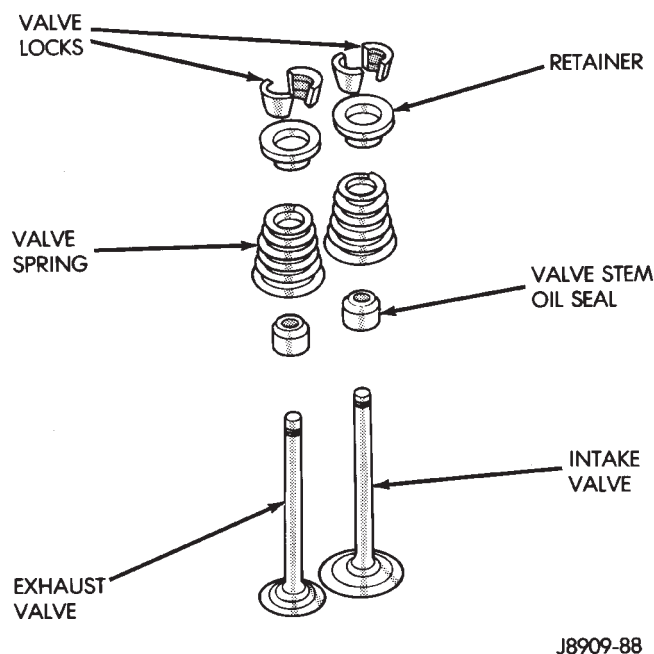

Fig. 17 Valve and Valve Components
(10) Remove valve stem oil seals (Fig. 17). Note the valve seals are different for intake and exhaust valves. The top of each seal is marked either INT (Intake) or EXH (Exhaust). DO NOT mix the seals.